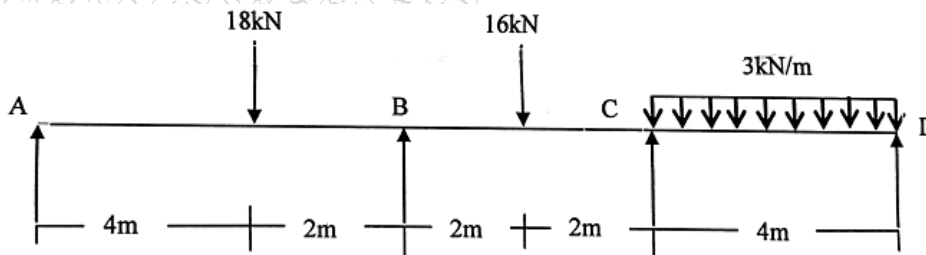

Fig.6
Q.7 Analyse the continuous beam as shown in figure 6. Find the moments along the beam and support reactions. Also draw BMD. 15